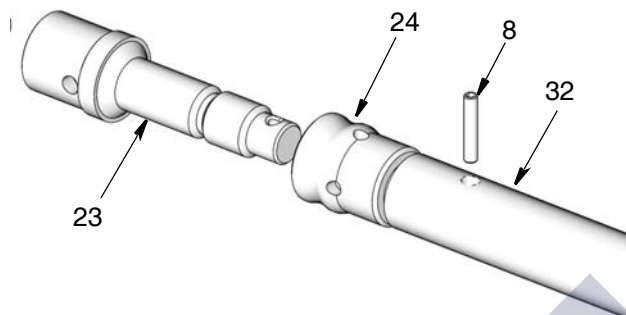

Fig. 19
16. Install piston seal (24) over the end of the piston rod (23). Note the correct orientation of the piston seal on the piston rod as shown in Fig. 19.
17. Screw the piston rod (23) and the connecting rod (32) together aligning the pin hole in both pieces to allow the pin to be pushed through (Fig. 19).
18. Replace the pin (8). Use a rubber hammer to tap the pin into place, being careful to make sure the sides of the pin are flush with the outside surface of the connecting rod (Fig. 19).